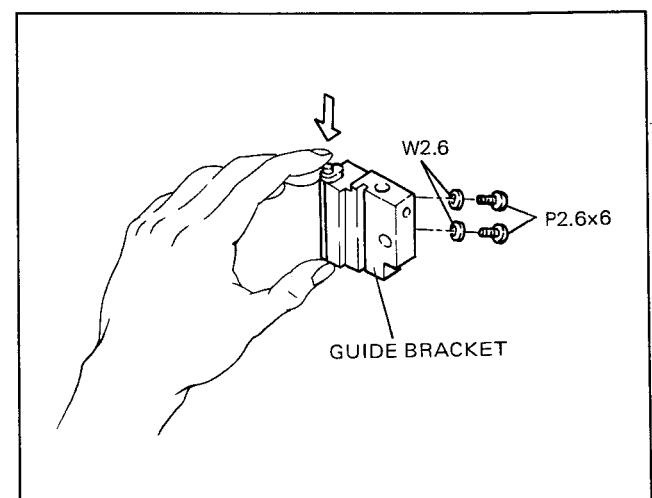

Fig. 6-31. Reassembly of Exit Guide Post and Guide Bracket
9. Pushing the guide post in the direction shown by the arrow (see Fig. 6-31), fix it to the guide bracket with two P2.6×6 screws applied with adhesive (such as locking compound) and W2.6 washers.